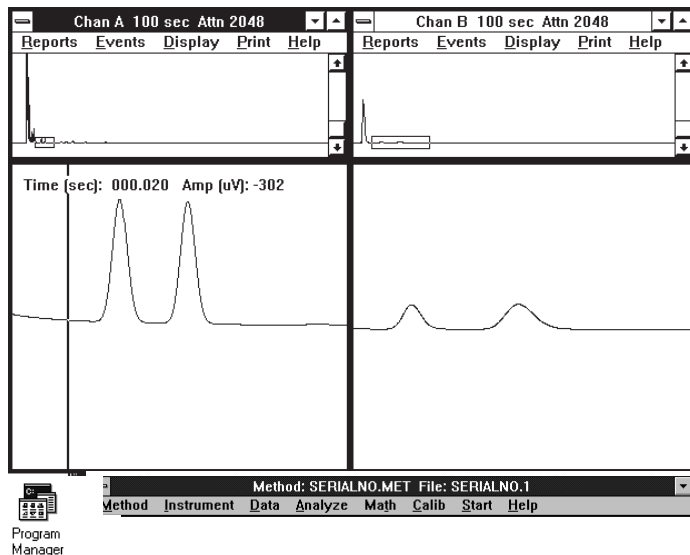

Figure 27 Using vertical cursor to set integration off
2. In the channel A window, activate a single vertical cursor and freeze it about 0.5 seconds to the left of the first peak (See Figure 27). Note the time where you froze the vertical cursor. Be careful that only one vertical cursor is visible in the window, otherwise the time and amplitude of the mobile cursor will be in reference to the frozen one. Should two vertical cursors appear, click the **right** mouse button, then the **left** mouse button and the two